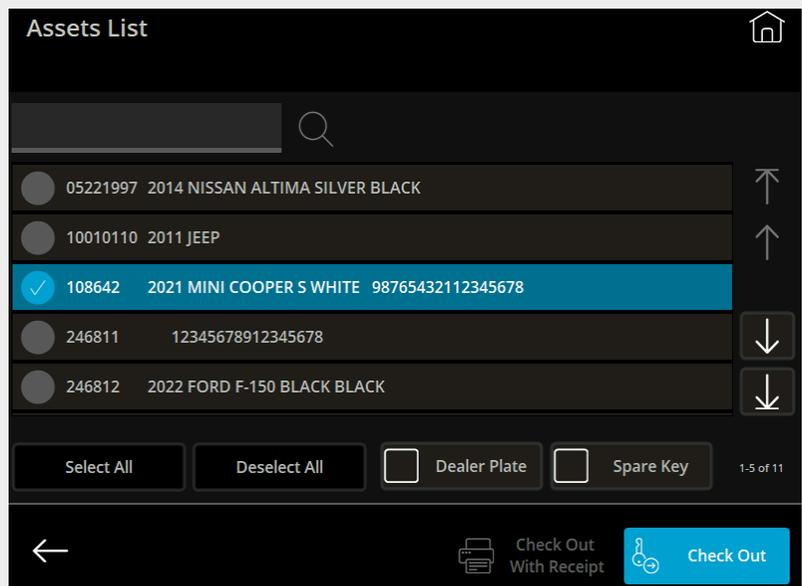

Fig. 50 – Assets List screen with asset selected
2. Press the **record (row)** for the asset you wish to check out to select it, as shown in Fig. 50.